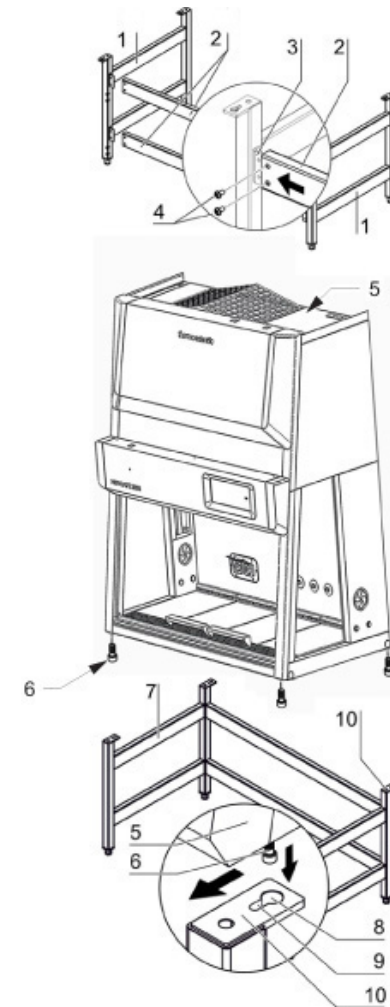

Figure 5. Installing the **HERASAFE 2030i** racks
1. **Figure 5:** Slide the two cross-members [2] onto the retaining angles [3] of the side panels [1], then secure the cross-members to the two side panels using the screws [4].